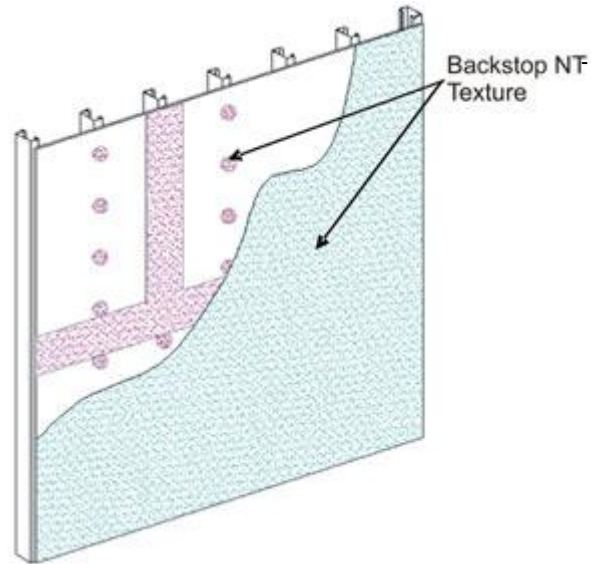

Figure 2
- 3) Use a coarse, open-cell foam roller cover with a 3/8 in (9.5 mm) foam nap (FoamPro #58 roller). Apply a uniform, continuous film of Backstop NT - Texture over the entire surface of the sheathing, concrete or masonry, including the previously treated areas – Figure 2. **NOTE: If the roller pulls material back out of the sheathing joints, it indicates that the joint material is not sufficiently dry.**